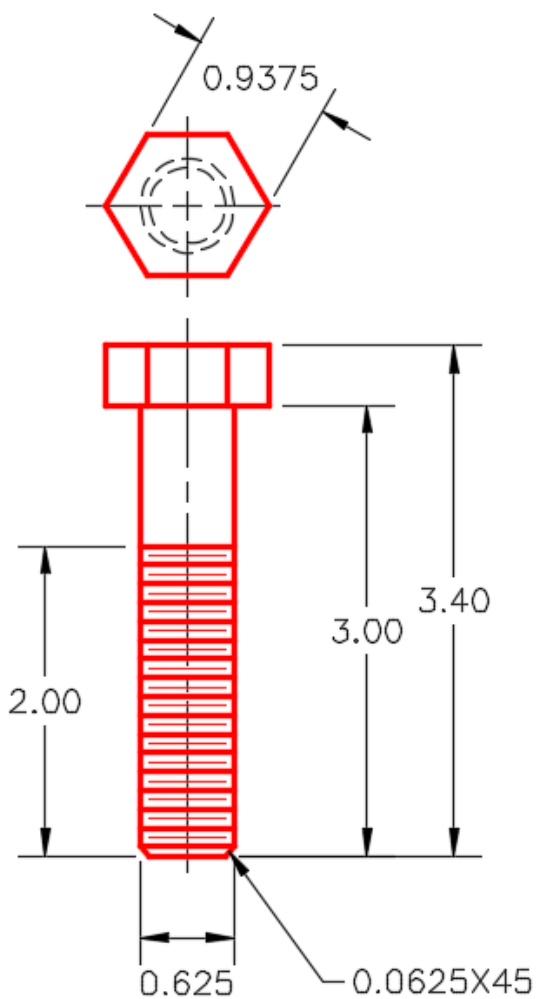

Figure Step 4A
Step 4 Draw a solid model of the bolt on layer: Solid 9 using the dimensioned drawings as a reference. Draw a center line in the model. (Figure Step 4A, 4B, and 4C)